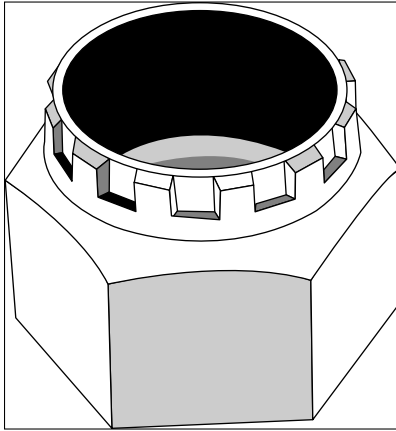

Figure 3-10:
- ✓ **Freewheel tool (see Figure 3-10):** A freewheel tool is required for removing the cassette from the rear hub. As always is the case with any specialized tool, be sure to buy one that fits your bike's particular make of freewheel or cassette.